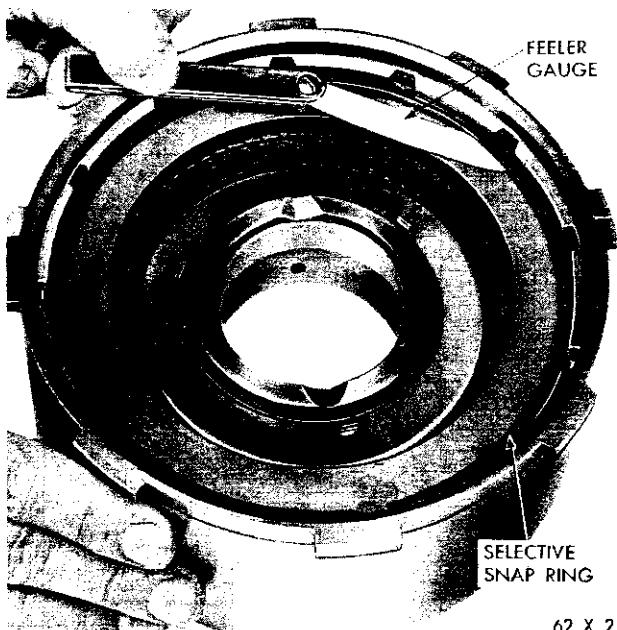

Fig. 70—Checking Front Clutch Plate Clearance
(4) Lubricate all clutch plates, install one steel plate followed by a lined plate until all plates are installed. Install the pressure plate and snap ring. Make sure the snap ring is properly seated.
(5) With the front clutch completely assembled, insert a feeler gauge between the pressure plate and snap ring (Fig. 70). The clearance should be .024 to .123 inch. If not, install a snap ring of proper thickness to obtain the specified clearance.